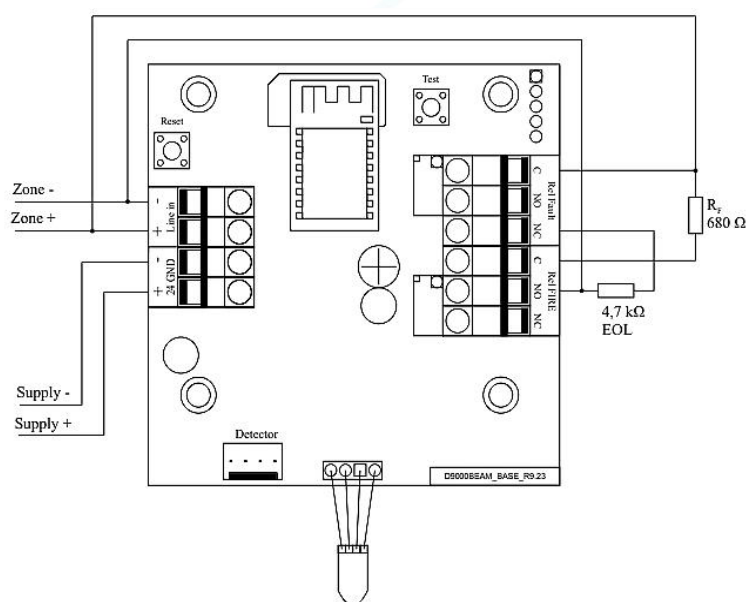

Fig.3
- The D9000 BEAM software processes the detector's output data and generates a "Fire" status and a "Failure" status. This status is output via 2 relay outputs so that it can be connected to all types of conventional panels. (Fig.3)
**An indication of the detector status is the color in which the RGB LED glows (item 1.3)!*